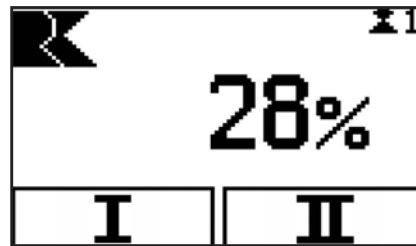

Figure 41 - 'Memory positions' mode
- Memory positions (standard view, Figure 41)